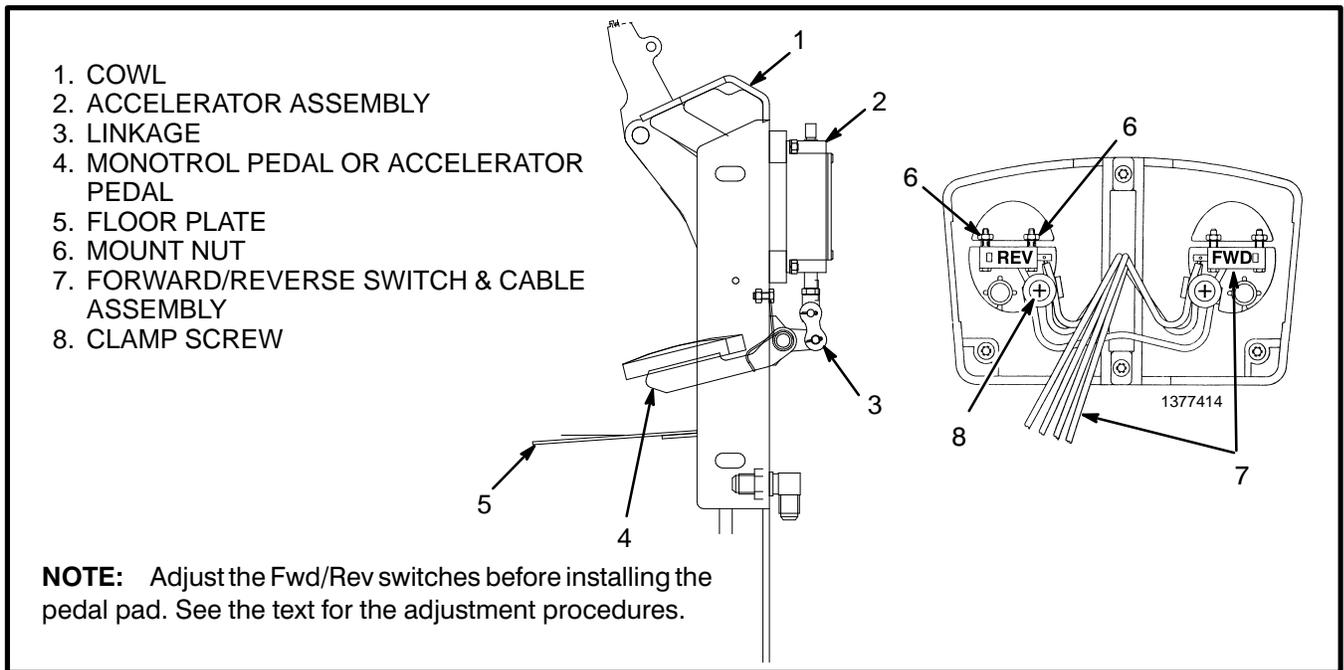

FIGURE 9 – MONOTROL PEDAL OR ACCELERATOR PEDAL POSITION, AND MONOTROL FWD./REV. SWITCHES REPLACEMENT AND ADJUSTMENT
Accelerator Switch Assembly (See FIGURE 9)
2. Remove the floor plates and the cowl cover. The accelerator switch assembly is under the cowl cover on the front of the cowl. See FIGURE 9.
Direction Switches (Monotrol Pedal) (See FIGURE 9)
There is a small direction switch under each pad of the Monotrol pedal. See FIGURE 9. Each switch controls one direction. If both sides of the Monotrol pedal are pushed at the same time, the direction circuit is deenergized. The contacts of the two direction switches are in a series and parallel arrangement so that both direction contactors cannot be energized at the same time.